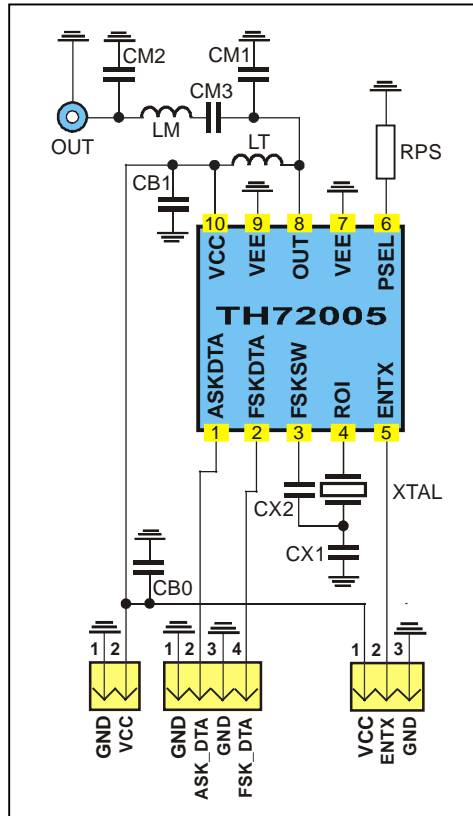

Fig. 18: Test circuit for FSK with 50 Ω matching network
typical values at $T_A = 23\text{ °C}$ and $V_{CC} = 3\text{ V}$; test circuit shown in Fig. 18, $f_c = 315\text{ MHz}$
- Data according to test circuit in Fig. 18
6.1 Test circuit component list to Fig. 18